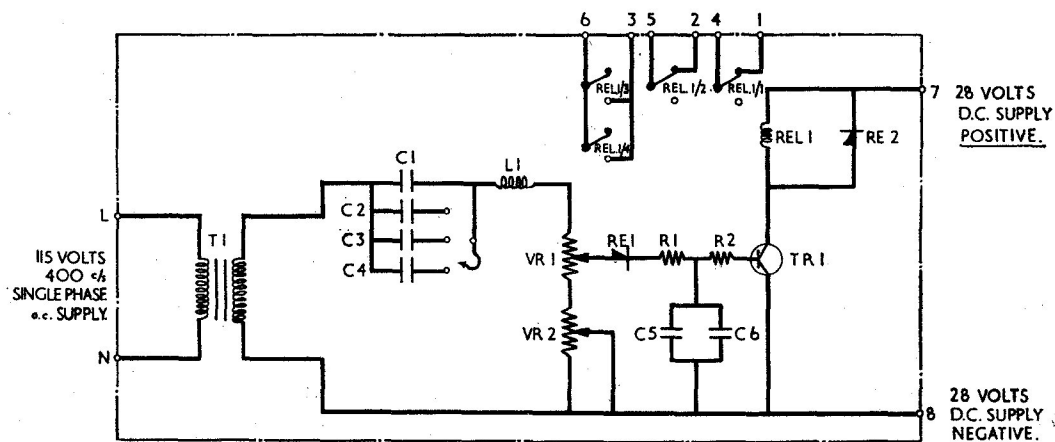

Fig. 3. Schematic wiring diagram
21. Carry out a continuity check of the complete unit, referring to the schematic wiring diagram (*fig. 3*) for details of internal connections. Ensure during the check that potentiometers VR.1 and VR.2 are positively locked.
22. Connect the pick-up box as follows, referring to the schematic wiring diagram (*fig. 3*) for terminal connections:—